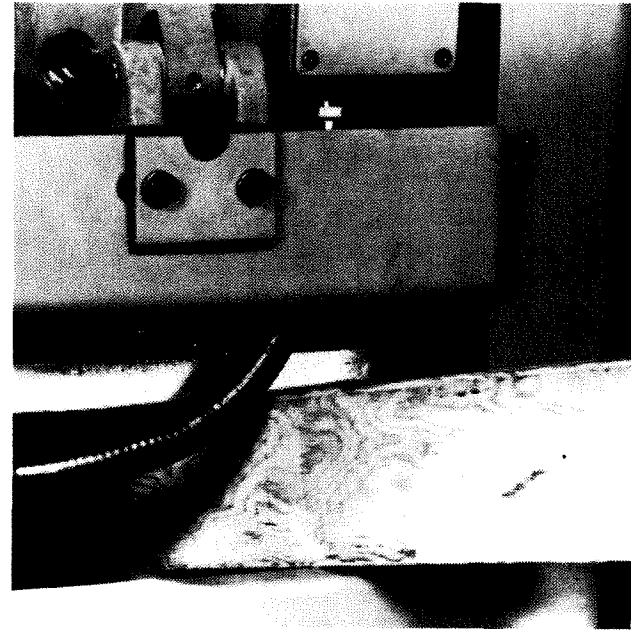

Figure 3.6 - Motor Plate Blocked in Position
10. Raise the front of the motor mounting plate approximately two inches and block it in this position, as shown in Figure 3.6 .